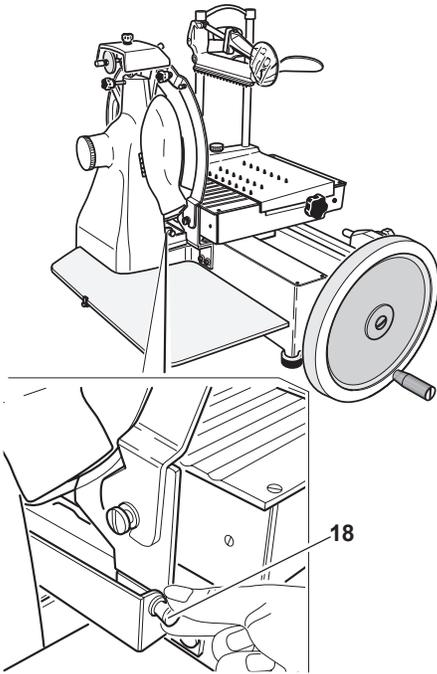

Figure 16-1
1. Remove the grease collection pan (18) (Figure 16-1).